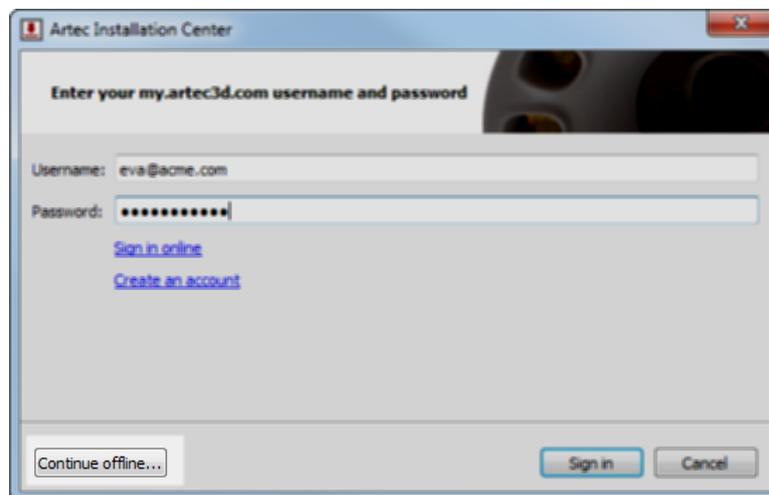

Figure 20: Artec Installation Center authentication dialog
2. During installation the login/password dialog will be displayed as **Figure 20** shows. Click *Continue offline*